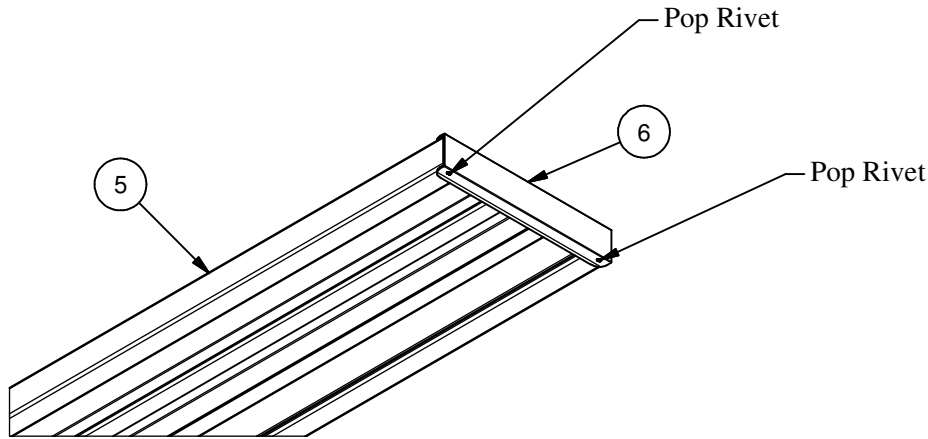

Figure 1
1. Install the end caps on each end of the seat plank, back plank, and shelf planks. Slide the end cap onto the plank with the holes on the underside of the plank. Using the holes in the end cap for a guide, drill a 1/8" hole and install the pop rivets to retain the end caps. See Figure 1.